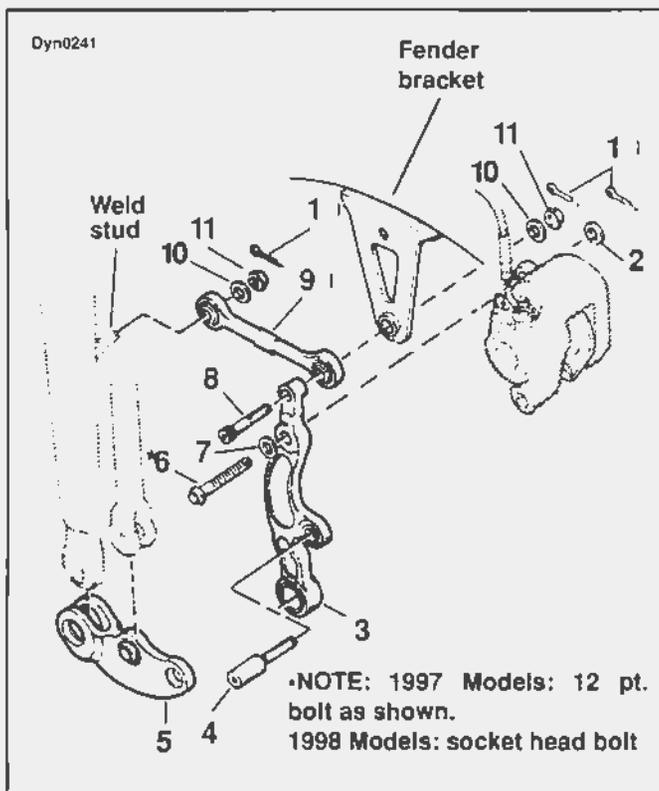

Figure 2-52. Brake Mounting (1997 Model Shown)
2. See Figure 2-52. Remove cotter pins (1) from brake reaction link socket head screw (8) (brake bracket) and weld stud (on rigid fork).
1. See Figure 2-52. Coat the outside diameter of lower mounting pin (4) with Dow Corning MOLY 44 light grease.
3. See Figure 2-52. Place flat washer (7) on upper mounting bolt (6), then insert the bolt through the bracket holes, and the mounting plate. Screw the bolt into the threaded bushing.